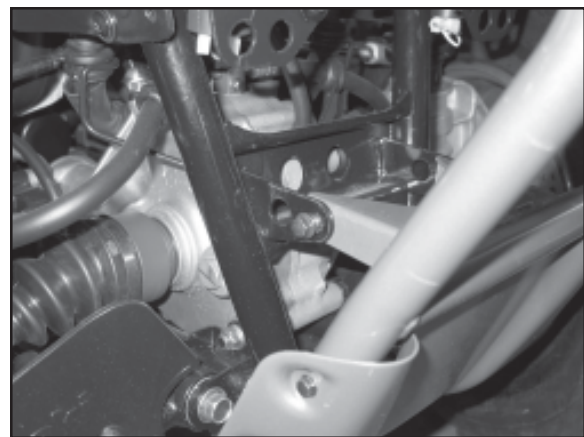

Figure 3
1. Remove the two 8mm bolts that attach the front bumper assembly to the ATV frame see figure 3.